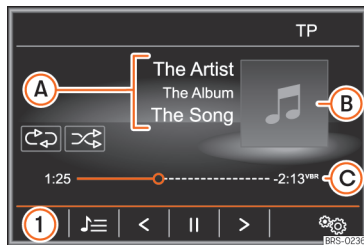

Fig. 204 MEDIA main menu.
- Press the infotainment button **MEDIA** to open the *Radio* main menu »» Fig. 204.